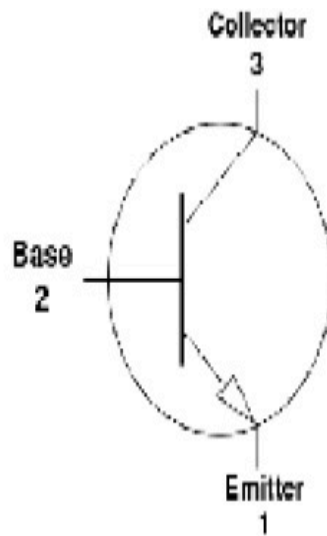

Figure 6.5 – The transistor's electronic diagram (NPN type)
*Figure 6.5* shows the electronic symbol for the transistor:
As you can see from *Figure 6.5*, the symbol shows the 2N2222's pin numbers. This pin order will change in other types of transistors.